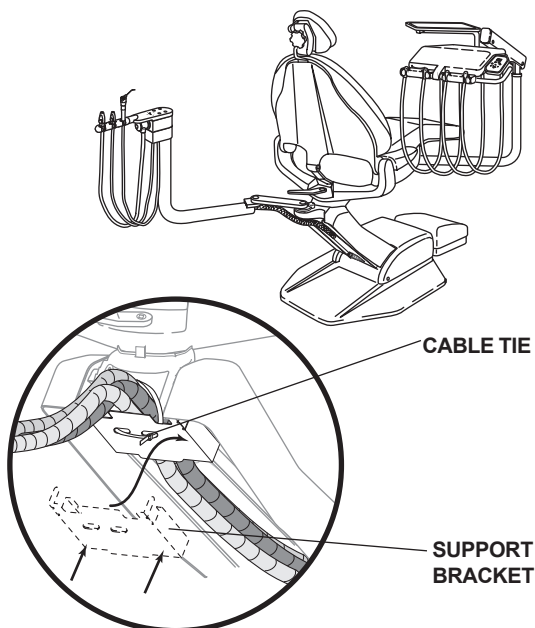

FIGURE 20
1. Reinstall the support bracket by snapping the bracket onto the chair link arms (see *Figure 20*).
2. Secure all of the tubings to the support bracket using a large cable tie (see *Figure 20*).